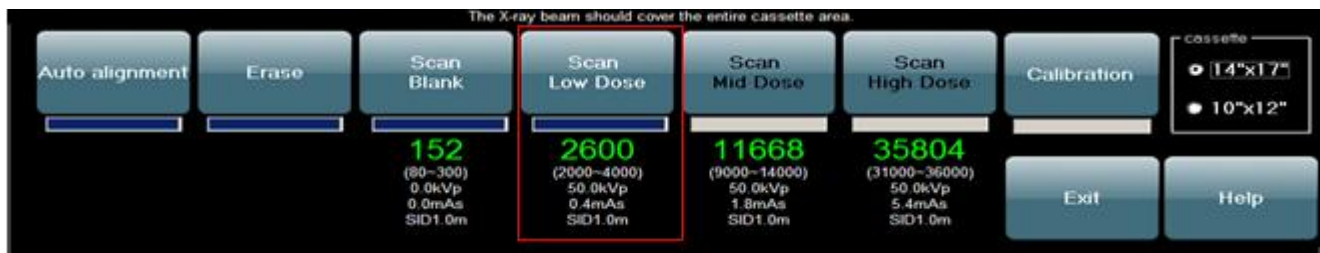

Figure 11
- › Left click *Scan Low Dose*. *Figure 11*